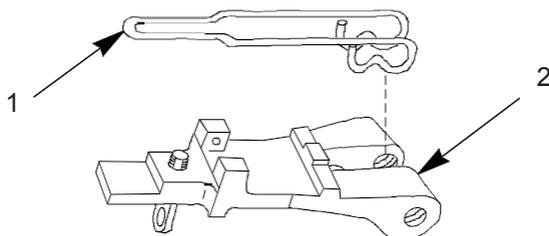

Figure 28. Lock Spring, Sight Leaf Assembly.
39. Separate lock spring (Figure 28 , Item 1) from sight leaf (Figure 28, Item 2). Visually inspect for bends or broken ends. Replace if damaged.